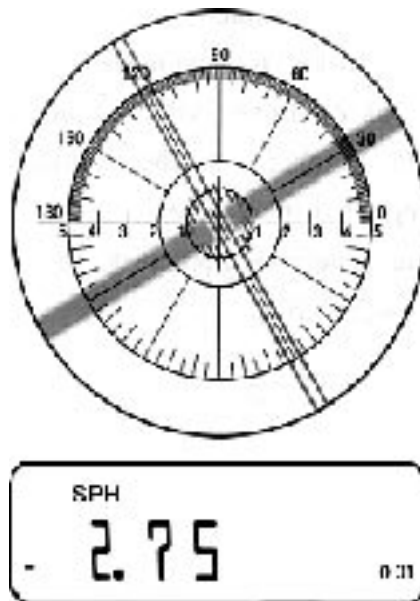

Fig. 11
5. Then finely regulate diopter measuring hand-wheel to obtain clearest focus of two long green lines of round dot drone and cross-line drone (Fig.11).